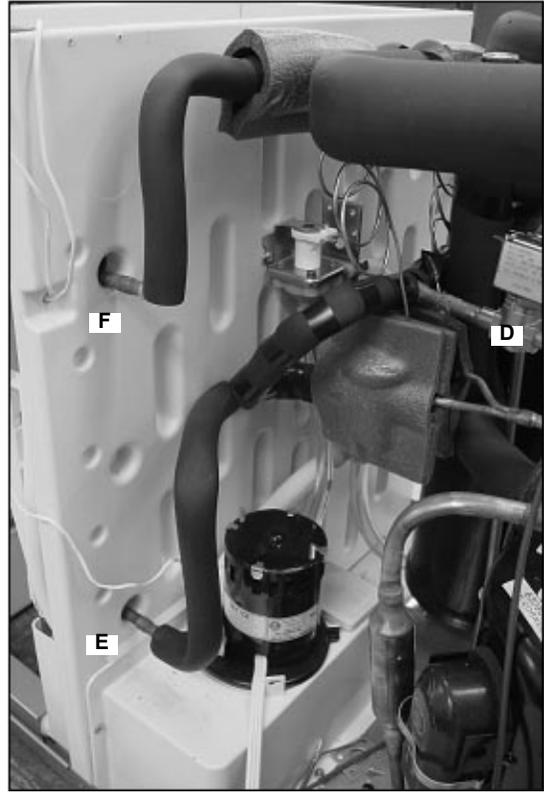

FIGURE 39
Disassemble the hot gas valve (D) to allow nitrogen to flow through the system (FIGURE 39).
- 38. Using clamps or other means, secure the insulation away from the joints, and braze the Heat Exchange Suction Line to the evaporator inlet (E) and outlet (F) (FIGURE 39).